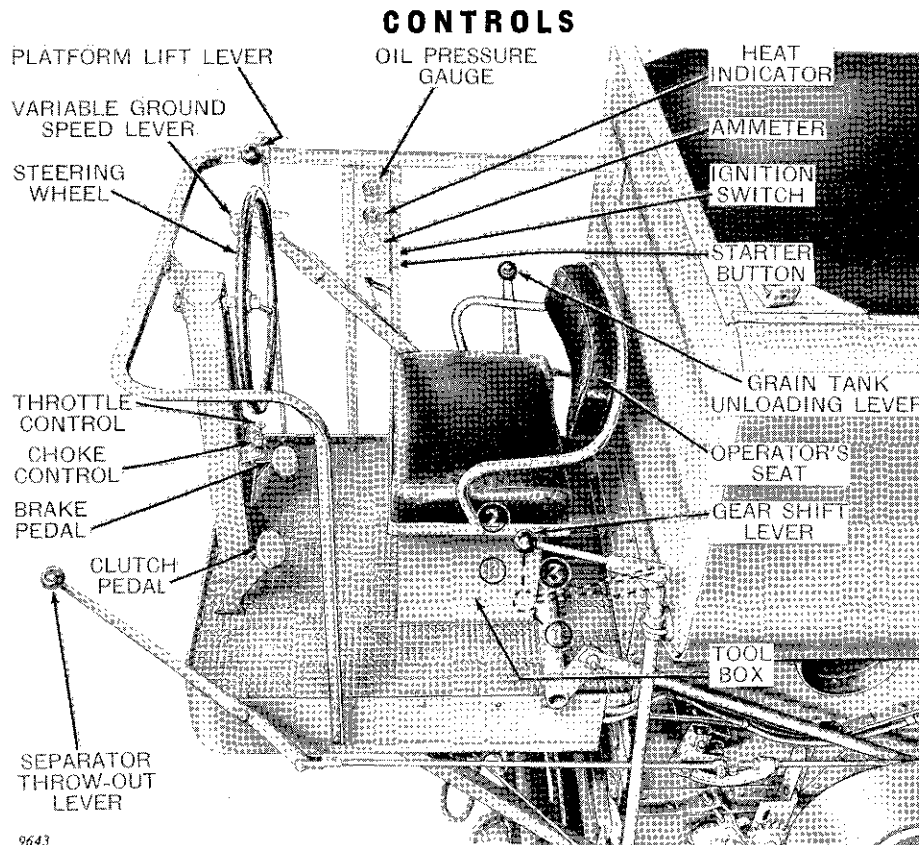

Figure 10-5-16—Combine Controls (Below Serial No. 55-12051)
All the controls necessary for the operation of the No. 55 Combine are on the operator's platform. The arrangement of controls has changed three times since the No. 55 Combine went into production. The controls used up to Serial No. 55-12051 as shown in Figure 10-5-16, Figures 10-5-17 and 10-5-18 show the arrangement of controls from Serial No. 55-12051 to 55-17838. The arrangement of the controls, Serial No. 55-17838 and up is shown in Figures 10-5-19 and 10-5-20.
**Gear Shift Lever.** The transmission has three speeds forward and one in reverse. The positions of the gear shift lever for the various transmission speeds are shown in Figures 10-5-16, 10-5-17, and 10-5-19.
**Selective Ground Speed Control.** Below Serial No. 55-12051 the ground speed was changed mechanically by a lever on the right-hand side of the operator's platform (Figure 10-5-16). Moving the lever forward increases the travel speed, backward decreases travel speed.